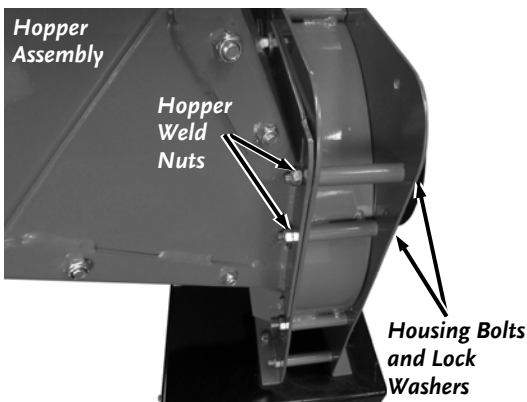

Figure 6
3. Thread the two Housing Bolts (with Lock Washers still in place) into the Hopper Weld Nuts (Figure 6).